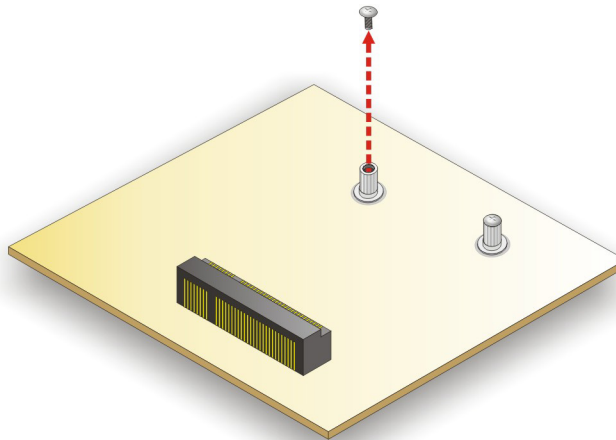

Figure 3-8: Removing the Retention Screw
Step 5: Remove the retention screw. Remove the retention screw for full-size card installation as shown in **Figure 3-8**.